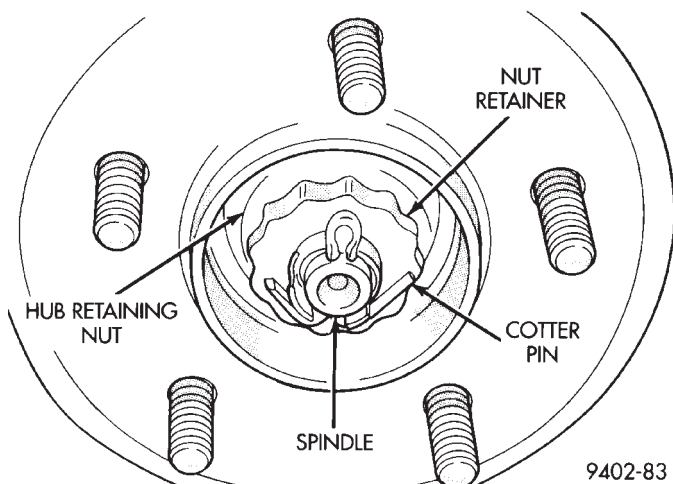

Fig. 78 Rear Hub And Bearing Retaining Nut
(4) Remove the rear hub and bearing assembly cotter pin, nut retainer, wave washer, hub and bearing retaining nut and washer (Fig. 78) from the rear spindle. Then remove rear hub and bearing assembly from spindle.
(5) Remove the rear brake shoes from the brake support plate. Refer to Rear Brake Shoes in the Removal And Installation Section in this group of the